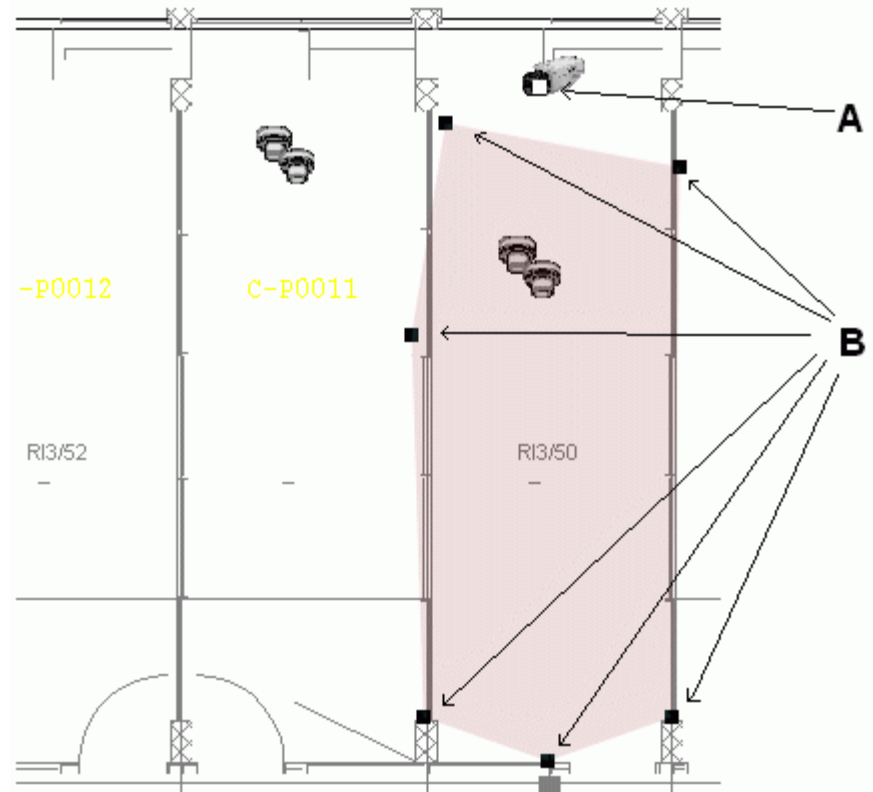

Fig. 14 Area controls
3. Use the squared dots of the polygon to move and arrange the area. (See "A" in Fig. 14.)
4. Locate and shape the polygon to represent the actual camera view. (See "B" in Fig. 14.)